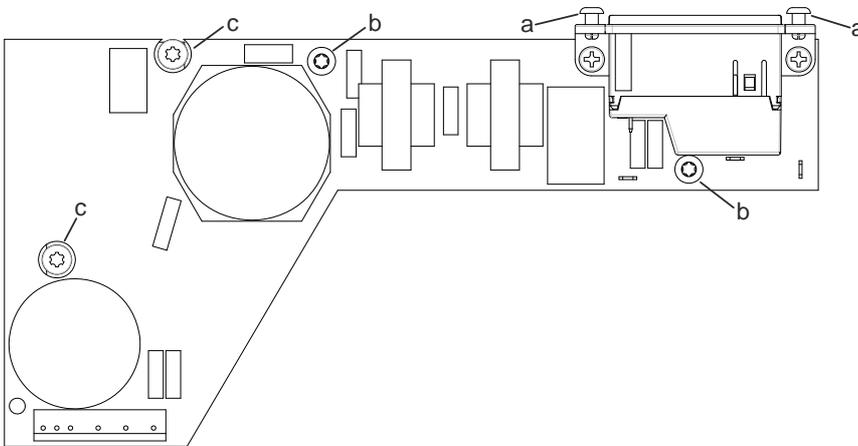

Fig. 6
- Remove both body-bound rivets (Fig. 6, c) at the appliance plug.
- Screw the four fastening screws out of the electronics (Fig. 6, b, c).
- ☞ The two screws (Fig. 6, c) are located on the cooling plate of the electronics (A3).